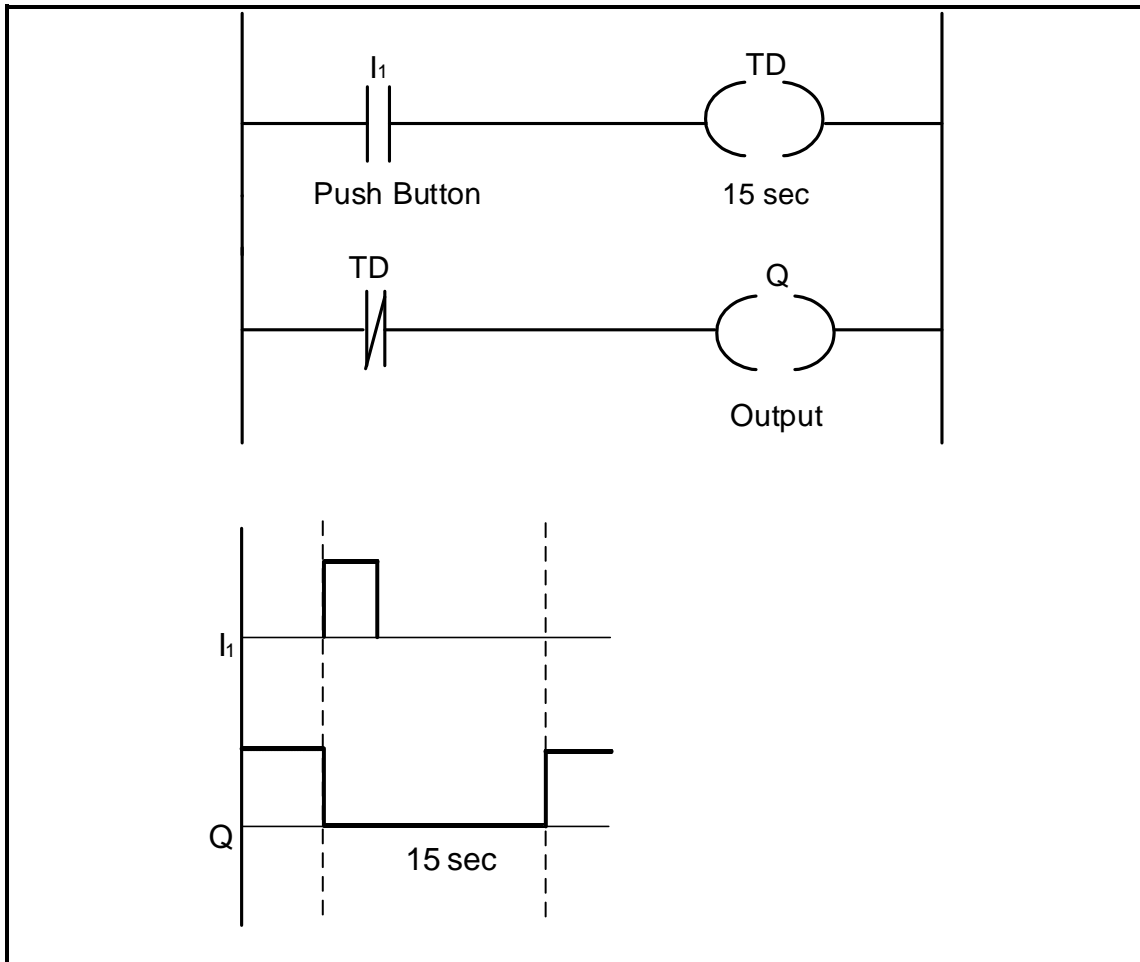

FIGURE 6.6: PLC LOGIC PROGRAM WITH DELAY TIMER
6.6 FIGURE 6.6 below shows a PLC logic program with a time delay of 15 seconds. Answer the questions that follow.